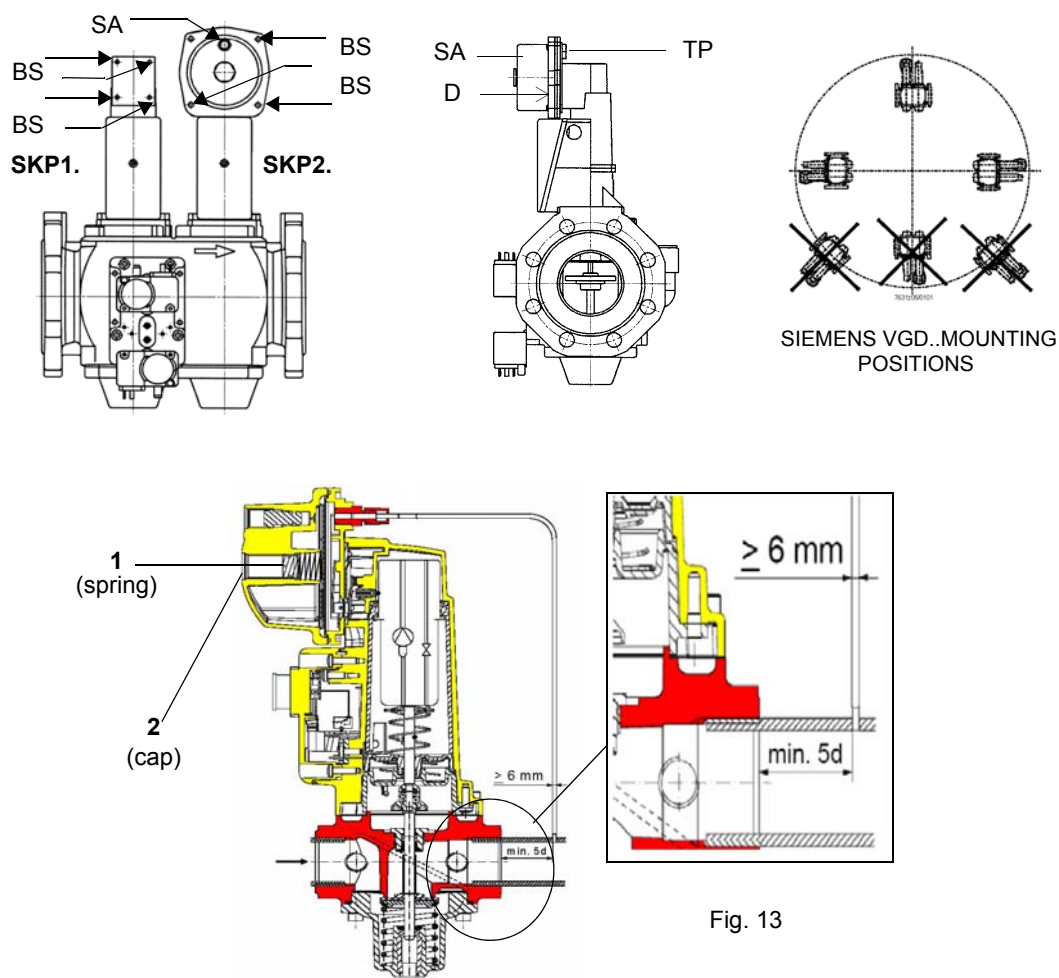

Fig. 13
**Caution:** the SKP2 diaphragm **D** must be vertical (see Fig. 13).